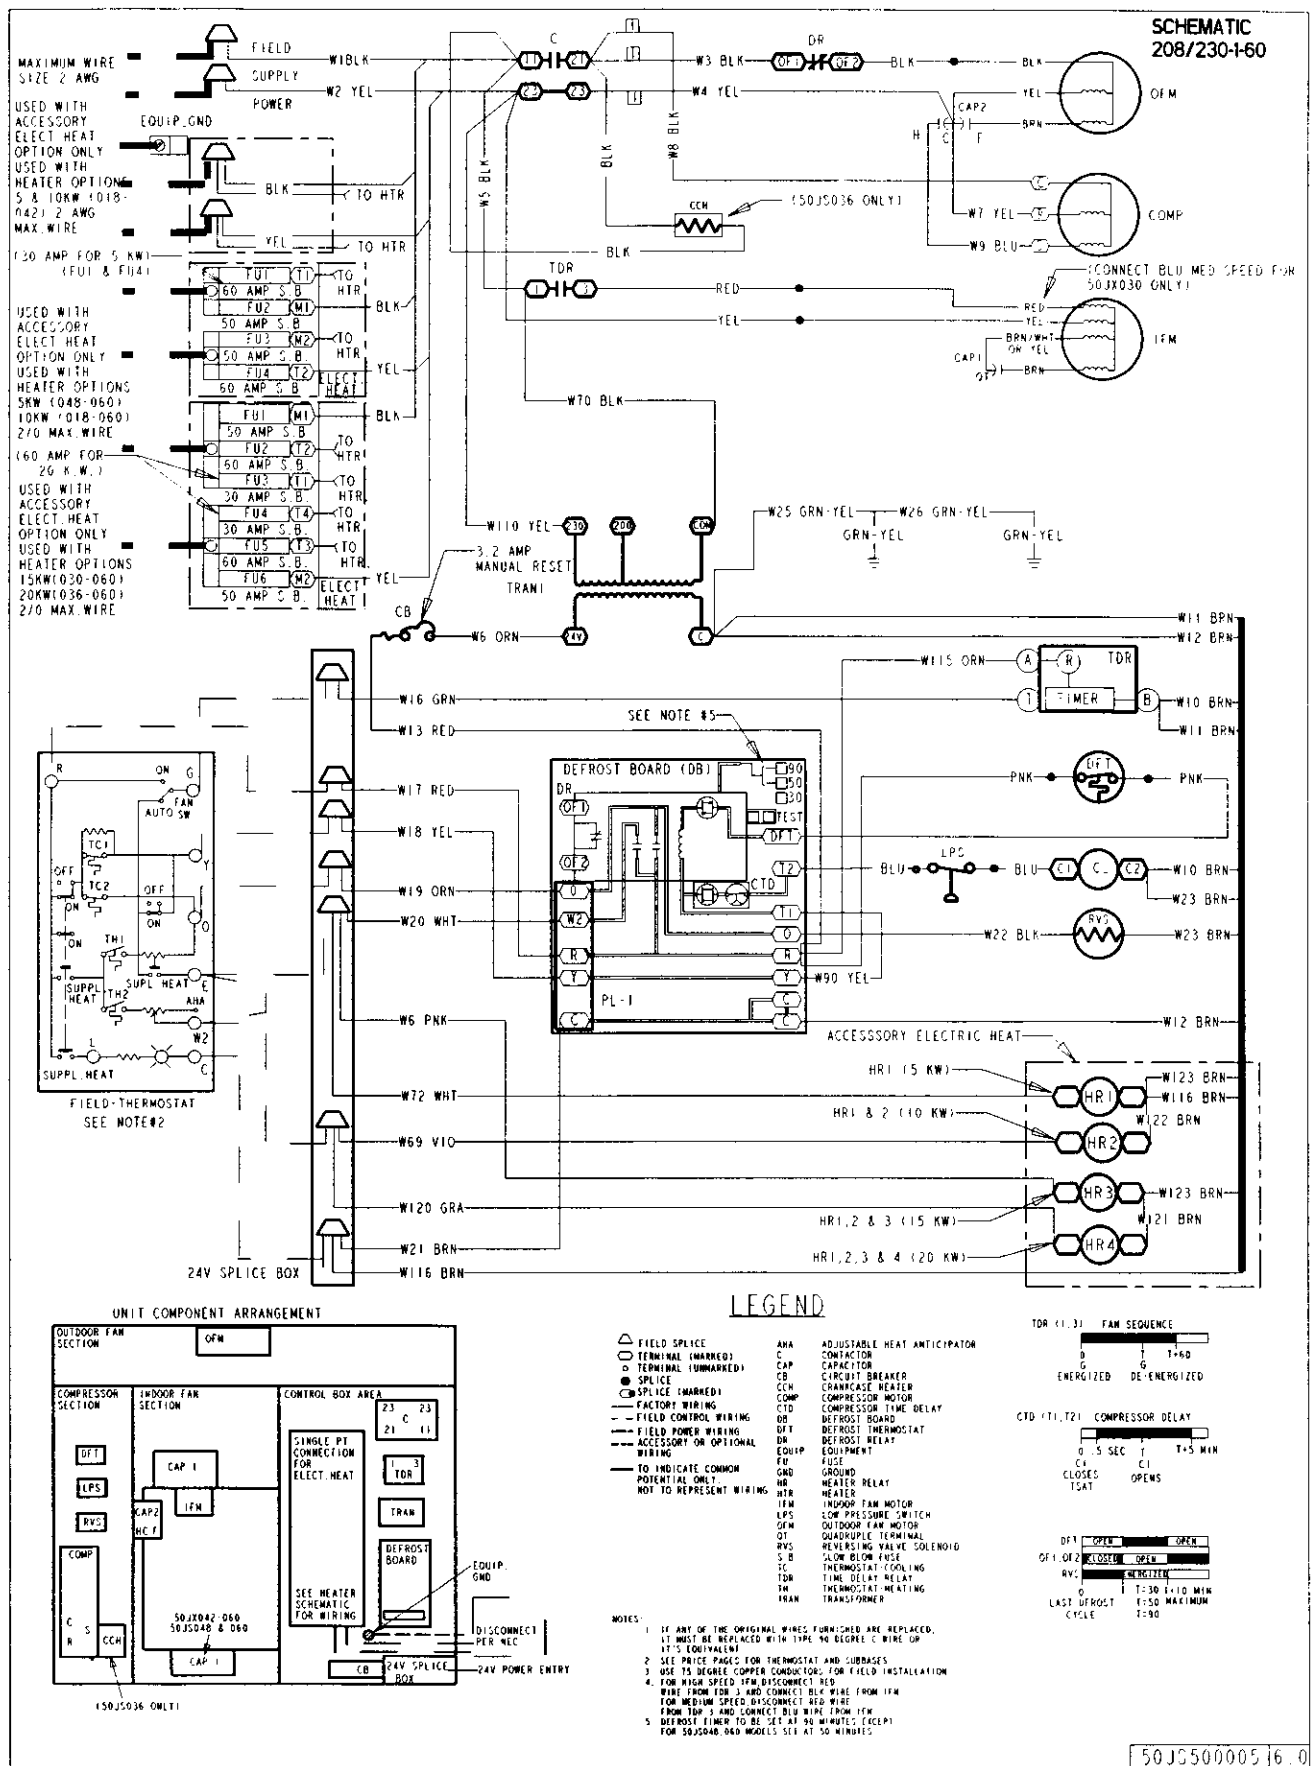

Fig. 13—Wiring Schematics (208/230-160)
1. Disconnect the yellow primary lead from the transformer. See unit wiring label (See Fig. 13 and 14).